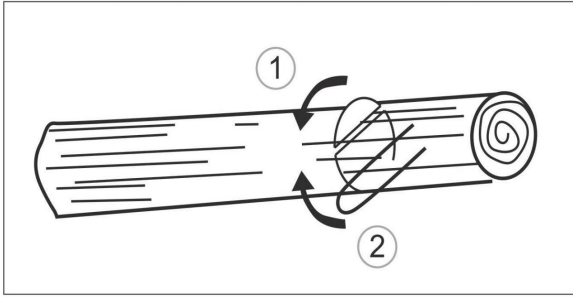

Fig. 22
3. In the case where the trunk is supported at both ends, first cut from the top 1/3 of the diameter of the trunk to avoid splitting. Then finish the cut from below so that it coincides with the first cut, avoiding jamming (fig. 22).